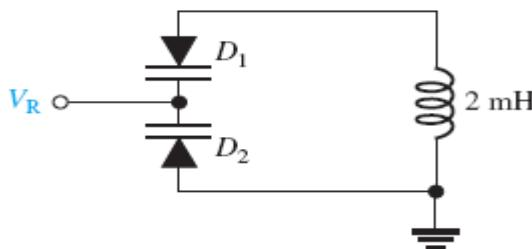

Figure 3–63
- 19.** At what value must the voltage V_R be set in Problem 18 if the varactors have the characteristic curve in Figure 3–62?